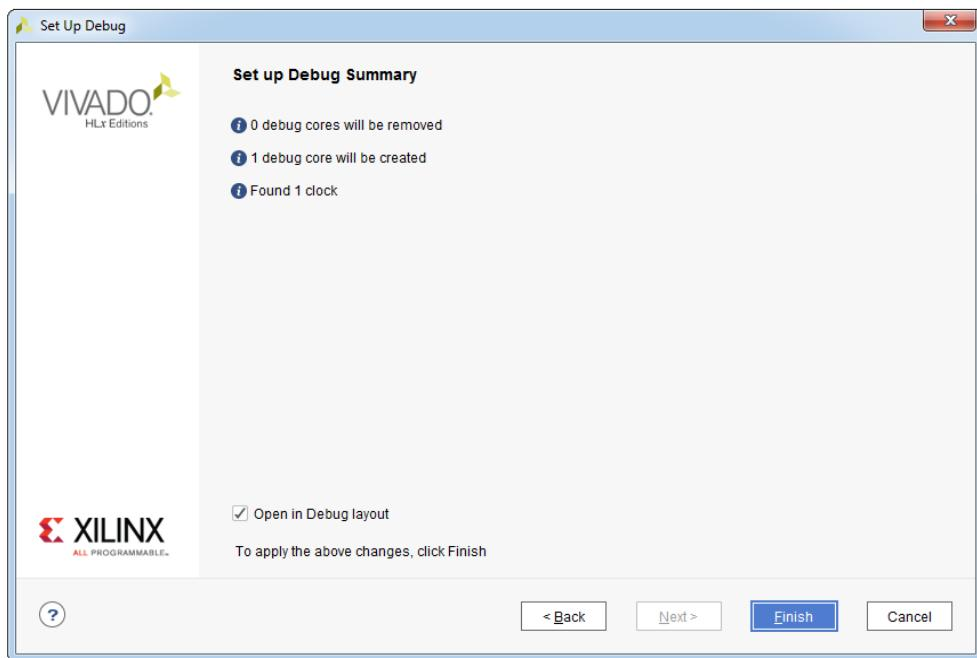

Figure 11.29: Set up Debug Summary dialog box
The nets that were selected for debug are assigned automatically to the probe ports of the inserted ILA v6.2 cores. The last wizard screen shows the core creation summary displaying the number of clocks found and ILA cores to be created and/or removed, see Figure 11.29.
29. If you are satisfied with the results, click **Finish** to insert and connect the ILA v6.2 cores in your synthesized design netlist, see Figure 11.29.